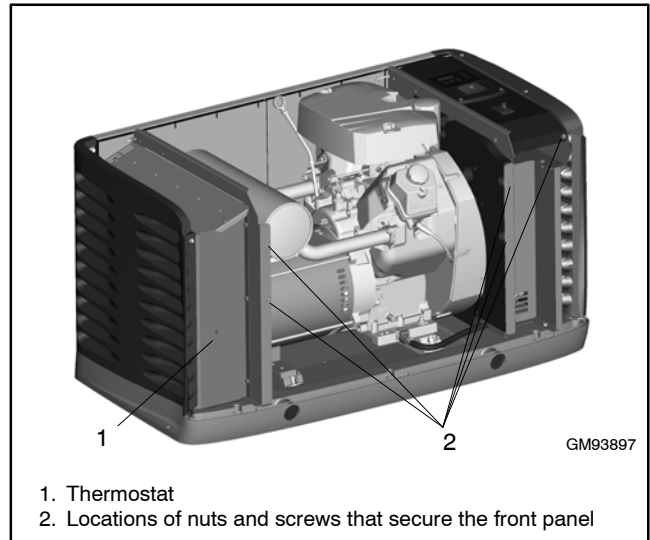

Figure 6-4 Thermostat Location, Model 20RESC/RESCL
Model 20RESCand 20RESCL generator sets include a resettable thermostat. See Figure 6-4 for the thermostat location. The thermostat detects excess heat inside the enclosure. If the thermostat trips, the generator will shut down and the controller will display a fault (underspeed, underfrequency, or undervoltage). Check for blocked air inlets and exhaust outlets. Then follow these steps to reset the thermostat.
4. To gain access to the thermostat, remove the front enclosure panel. See Figure 6-4.